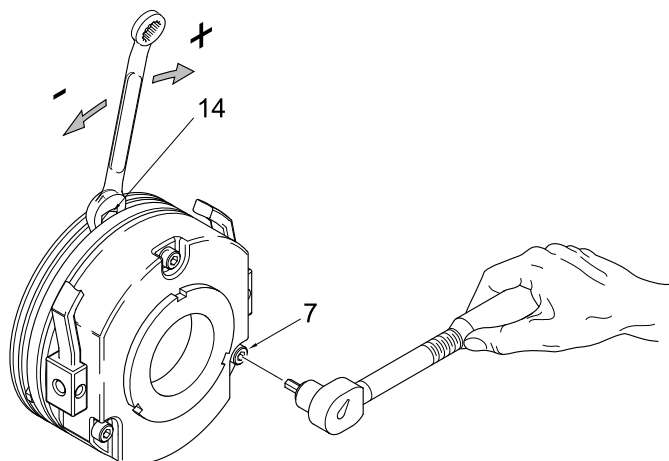

Figure 76 – Adjusting the Traverse Brake Air Gap
Where adjustment is required, loosen the assembly screws (7) by half a turn. Adjust the air gap by turning the adjustment tubes (14) until the required air gap is reached (see Figure 76).
- If the air gap is too large, screw the three adjustment tubes (14) into the stator. If the air gap is too small, screw the adjustment tubes out of the stator.